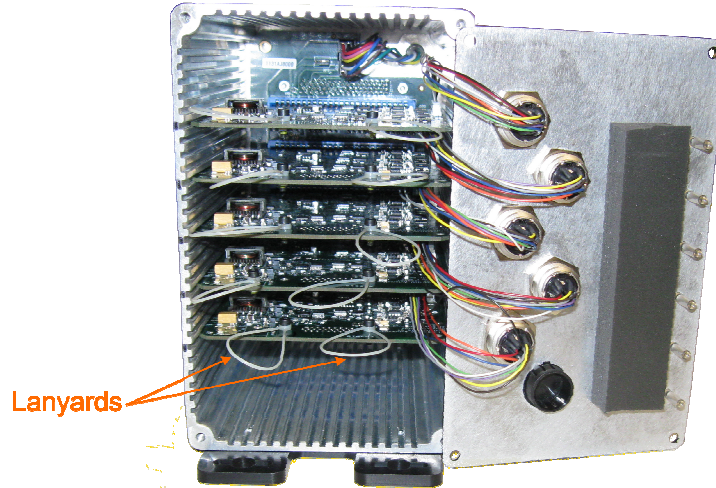

Figure 9.3—IFPSMC with Opened Front Panel
3. Carefully swing the front panel to the right side of the box, as shown in *Figure 9.3—IFPSMC with Open Front Panel*.